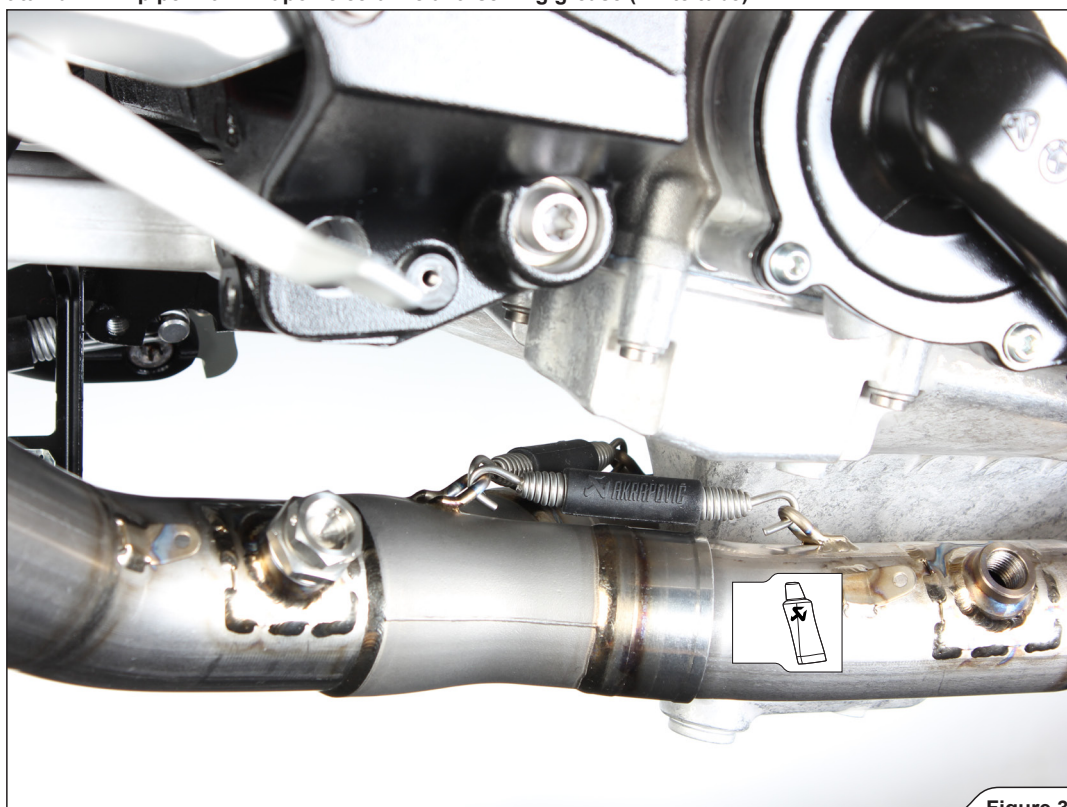

Figure 30
4. Slide the link pipe onto the collectors and attach the springs (Figure 30).